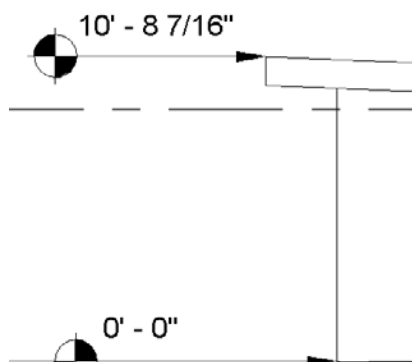

Figure 4.44
- **Spot Elevation** displays the actual elevation (height) of a selected point and can display the top and bottom elevations of an element with a thickness (see Figure 4.44).